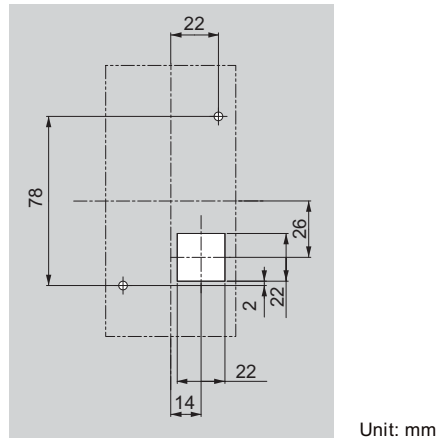

Figure 2.6 Panel Cut-Out Dimensions (External/Face-Mount Installation)
1. Cut an opening in the enclosure panel for the digital operator as shown in Figure 2.6.